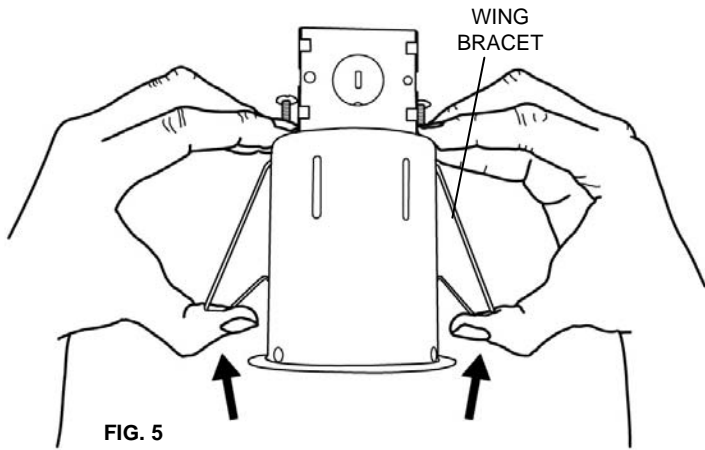

FIG. 5
1. Spread apart both wing brackets and push them upward, toward the junction box, as shown below. (Fig. 5)